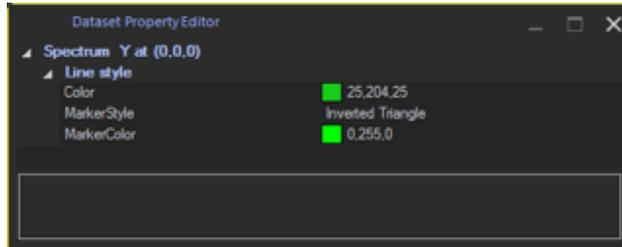

Figure 12.16: Selected data preferences.
Preferences pops up a dialog that allows editing of preferences for the selected dataset only, as illustrated in Figure 12.16.
- All dataset preferences, as illustrated for the selected dataset in Figure 12.16.